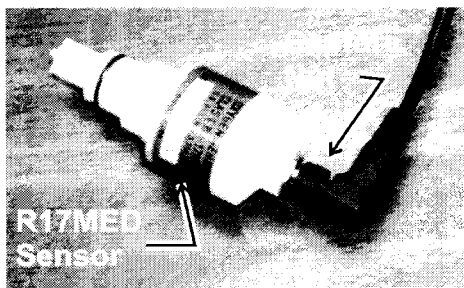

Figure 2-1: Installing the R17MED Sensor
2. Plug one end of the coiled cable into the jack receptacle on the back end of the R17MED sensor and secure in place with the capture nut located at the base of the connector. See Figure 2-1.
When monitoring for oxygen in breathing circuits, the flow diverter must be used. The diverter should be screwed onto the threaded front end of the R17MED sensor. A tee adapter (plastic, P/N A268, or metal, P/N A283) should be placed into the circuit, and the above sensor assembly plugged into the tee adapter. See Figure 2-1.